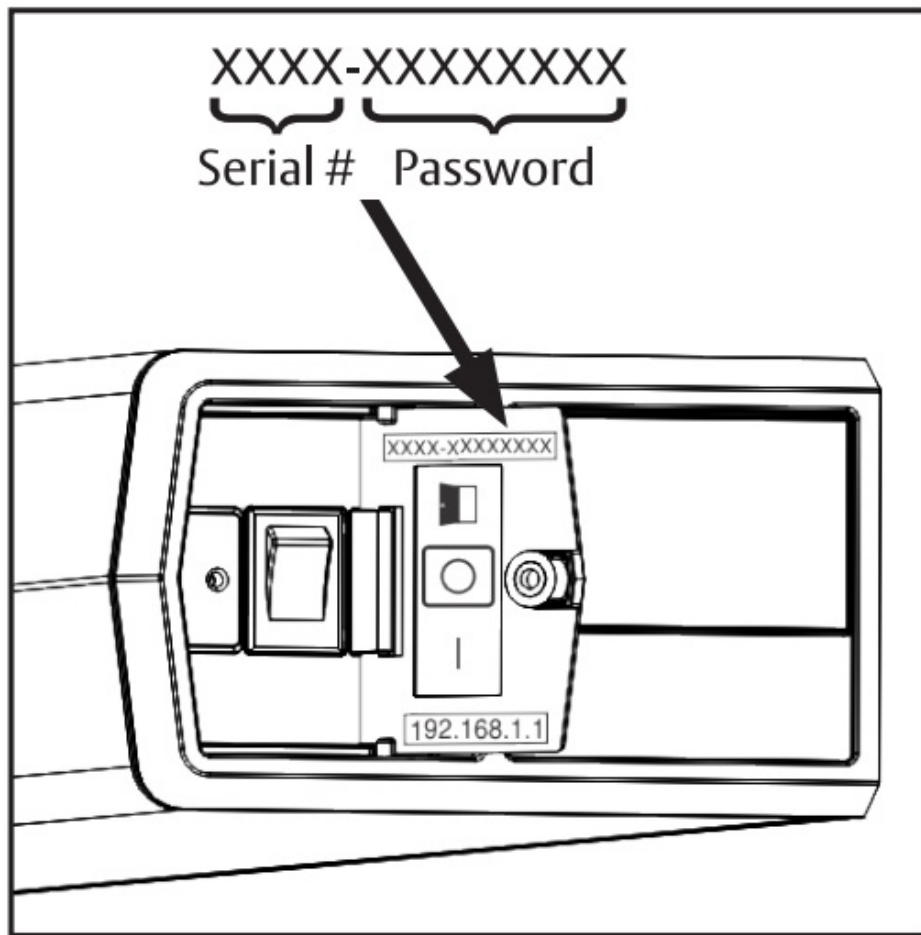

Figure 11
- Operator serial number, password and IP address are located inside end cap. (Figure 11)